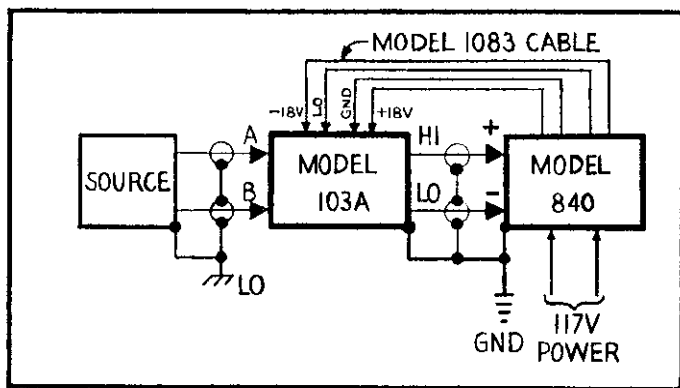

FIGURE 15. Use in System 84 Lockin Amplifier.
b. Lock-in-System Preamplifier. When used with a phase-sensitive detector such as the Keithley Model 840 the Model 103A can be connected as shown in Figure 15. In this application the Model 103A outputs mate with the differential input of the Model 840 thereby minimizing the effects of ground loop connections. For this application the Model 840 should be set for "DIFF" input mode. Since the Model 840 accessory power output provides low and ground as well as  $\pm 18$  volts, it is not necessary to connect the Model 103A chassis to earth ground.